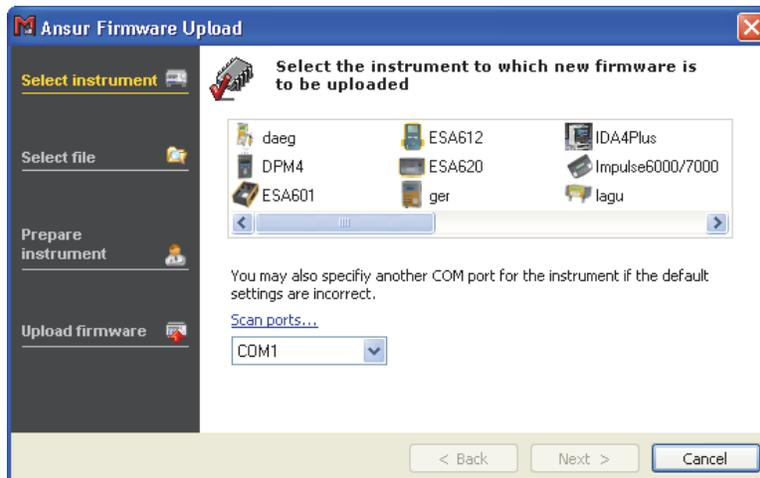

Figure 4-47. Firmware Upload Wizard
1. Start AnsurMLC and select **Tools | Upload Firmware**. Alternatively, from the Window's Start menu, select **Programs | Fluke | Update Firmware**. This starts the firmware upload wizard shown in Figure 4-47.
2. Select the instrument model and the COM port that the instrument is connected to and then click **Next**. (See Figure 4-47).